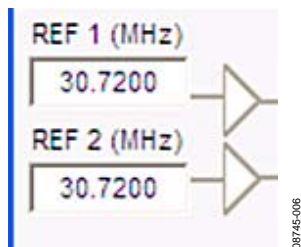
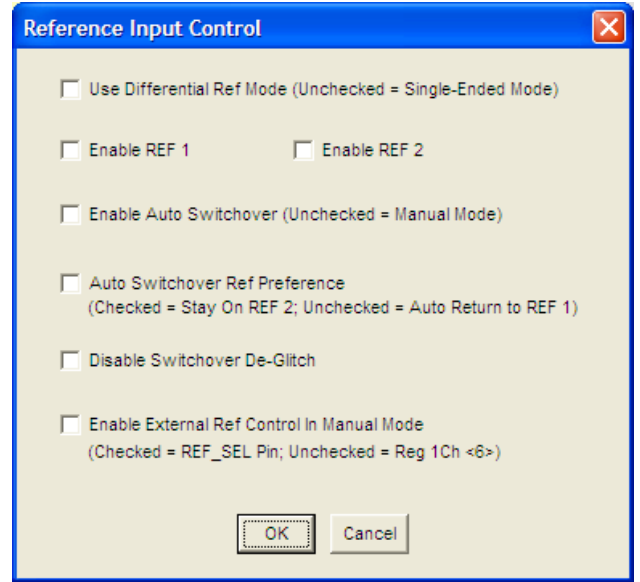

Figure 4. Buffer Symbol
Figure 5. Reference Input Control Window
3. Click the triangular buffer symbol immediately to the right of the input reference frequency (see Figure 4) boxes to load the Reference Input Control window shown in Figure 5. Turn the REF1 reference input buffer on by selecting the Enable REF1 check box, and then clicking OK.